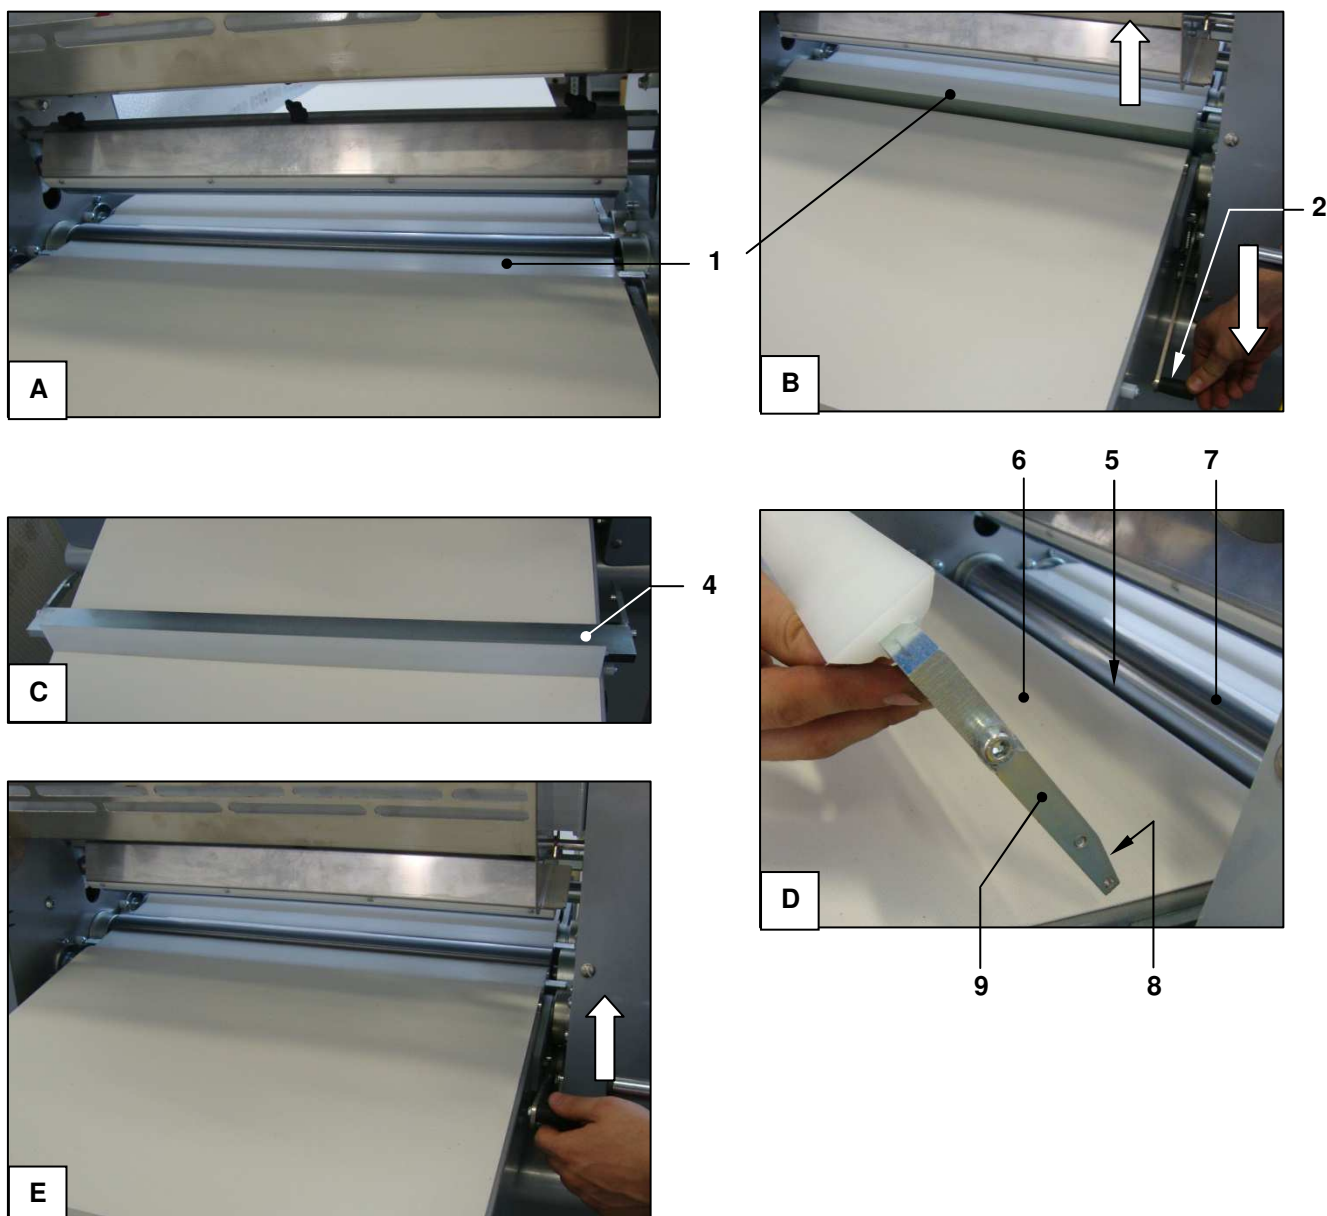

Figure 36 - Mod. SF600: removing/installing the lower roller scrapers
With reference to Figure 36, **to remove a scraper** ref. 1 lower the lever completely ref. 2. The scraper will move away from the conveyor belt and the thickening roller (photo B) and can then be removed by pulling it upwards.
**To install a scraper** ref. 1:
- lower the scraper unit ref. 4 into the space ref. 5 between the belt ref. 6 and the thickening roller ref. 7. The bevelled part ref. 8 of the plate ref. 9 must be facing towards the roller ref. 7 (photo D).
- allow the scraper ref. 1 to rest against its lower limit stop (photo F), then lift the lever ref. 2 completely (photo E).